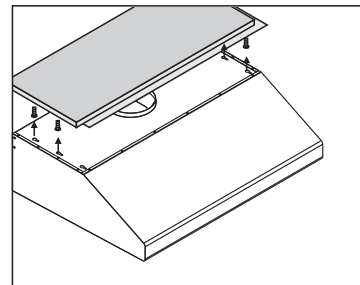

Fig.11
b. The large part of the keyhole mounting slots on the hood fit onto the hood mounting screws projecting from the bottom of the cabinet. (Fig.11)